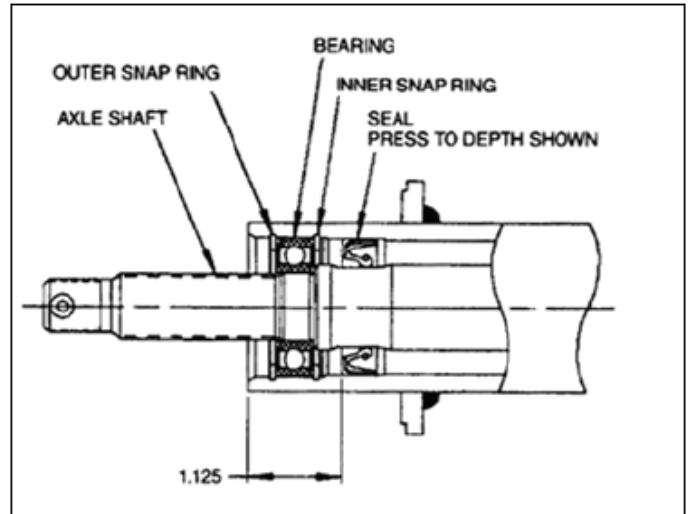

Figure 7-30. Axle Components
16. With properly sized seal driver, install shaft seals (26). Press seals to depth of 1.125" (28.5 m). See Figure 7-30.